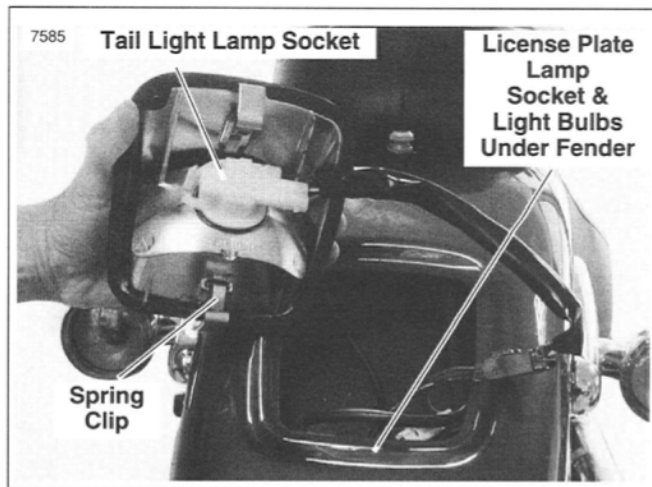

Figure 59. Tail Light Removed
2. See Figure 59. Lift the tail light assembly upward exposing the electrical connectors, tail light lamp socket, and the two license plate lamp sockets
2. See Figure 59. Remove the license plate light bulb socket by twisting the bulb socket out of the license plate bulb holder.